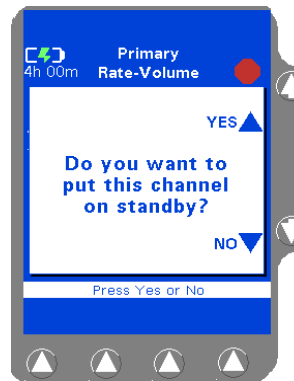

Figure 11-16 Standby Pop-up
4. Use the $\uparrow\downarrow$ keys to highlight **Standby**, then press the **Select** soft key. The Standby pop-up is displayed (Figure 11-16).